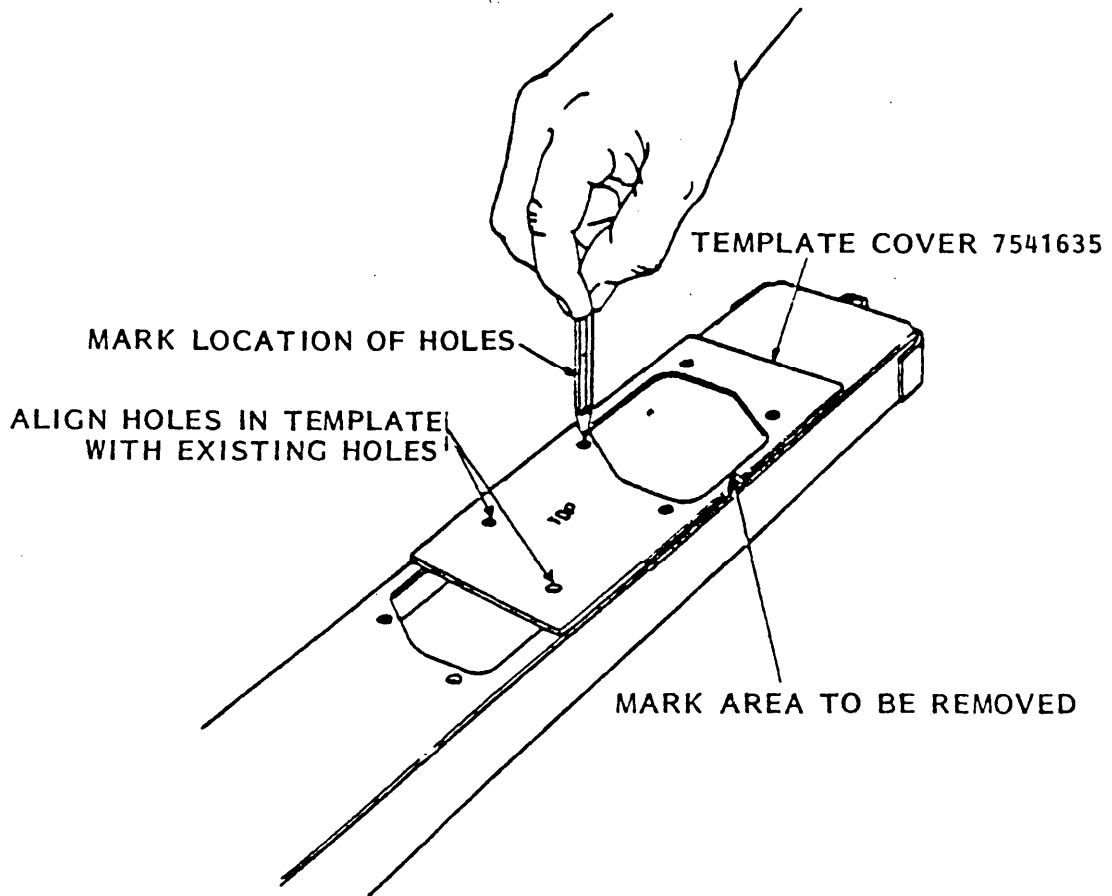

Figure 12. Marking of cover
- (5) Place template 7541635 (4, fig. 5) on top of cover (fig. 12). Align the two mounting holes on the left side of the template with the two mounting holes on the right side of the cover.
- (6) Using a scribe, pencil, or other suitable marking instrument, trace the outline of the four chute mounting holes and the access opening on top of the cover (fig. 12).